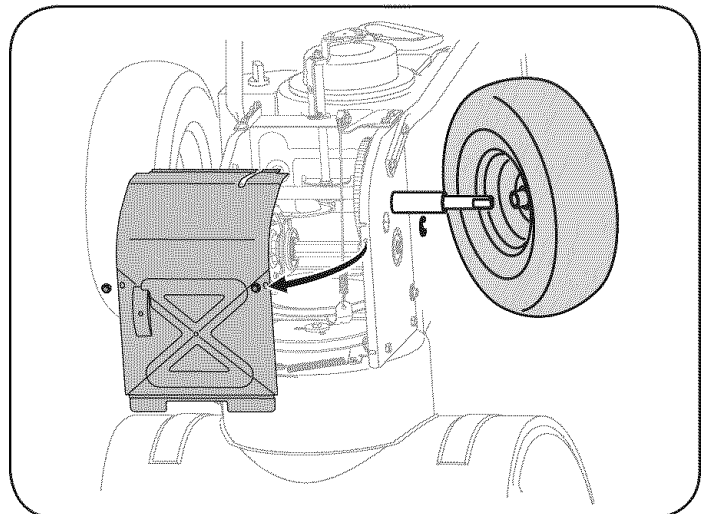

Figure 28
- Remove the right-hand wheel by removing the screw and bell washer which secure it to the axle. See Figure 28.